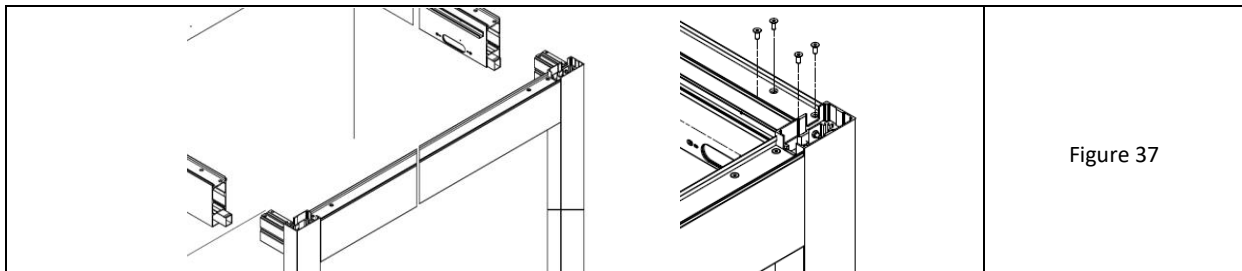

Figure 37
20. The frame should be inserted into the free ends of the supported crossbeams. The lower outflows in the crossbeams enter a square window in the post (on the wider side) below the bone. Bone from the post to the upper chamber of the beam (fig. 37).
21. Screw both corners from above using 4 countersunk screws M8x20 with Allen socket (fig. 37-right).